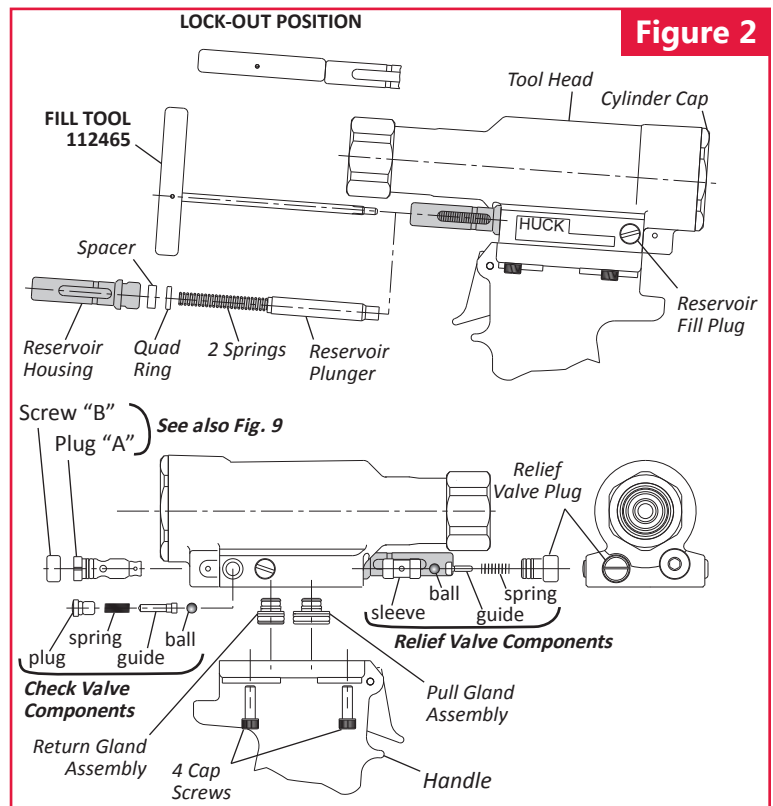

Figure 2
3. Insert Fill Tool (P/N **112465**) through reservoir housing and screw it into the reservoir plunger, locking it in the out position. (Figure 2)
4. Unscrew cap screws with a 5/32" hex key, and carefully separate head from handle. Remove the pull and return gland assemblies, and remove the seals from the glands. (Figure 2)
8. Unscrew the check valve plug from the side of the head. Then remove the spring, guide, and ball. (Figure 2)
15. Remove the bleed plug from the handle. (Figure 2)